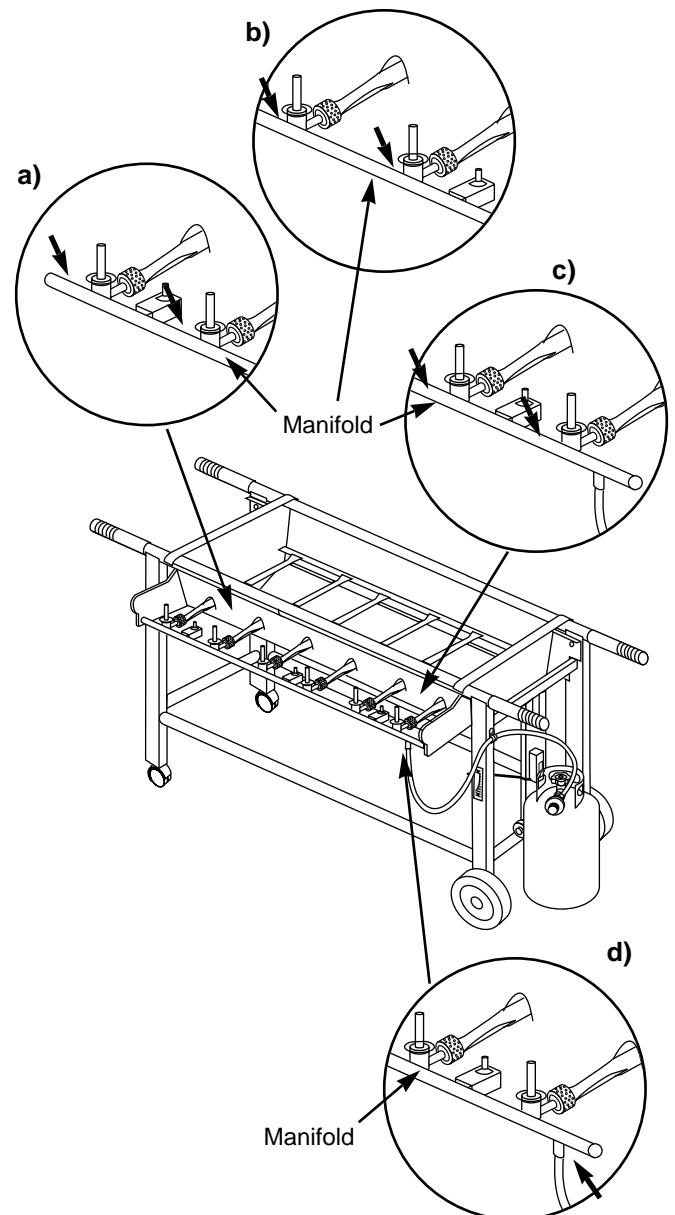

Figure 9
- a) Left valves to manifold connection. Figure 9 (a).
- b) Center valves to manifold connection. Figure 9 (b).
- c) Right valves to manifold connection. Figure 9 (c).
- d) Hose to manifold connection. Figure 9 (d)